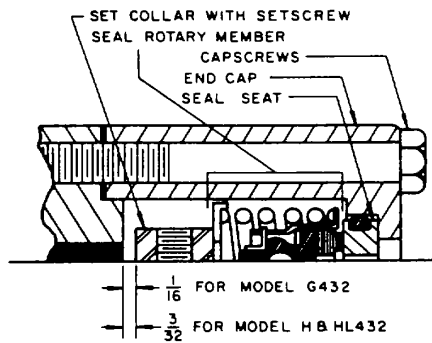

FIGURE 14
7. Install the mechanical seal: Place the setcollar on the shaft and tighten setscrew. See figure 14 for setcollar location.
NOTE: Never touch the sealing faces with anything except the fingers or a clean cloth. Spread a film of lubricating oil on the inside diameter of the synthetic rubber bellows. Check the end of the pump shaft for sharp burrs or edges which might cut the bellows. Slide the seal rotary member over the shaft and up against the setcollar. The spring washer and spring must be put on the shaft first and in that order. (See Figure 14). Coat the synthetic rubber seal seat with lubricating oil and push the seal seat into the end cap. Put the end cap gasket on the end of the casing. Slide end cap over the shaft and flush both the seal seat and carbon wear ring in the seal rotary member with oil. Push the end cap up until the mating surfaces or the seal meet. Install the capscrews and tighten evenly.